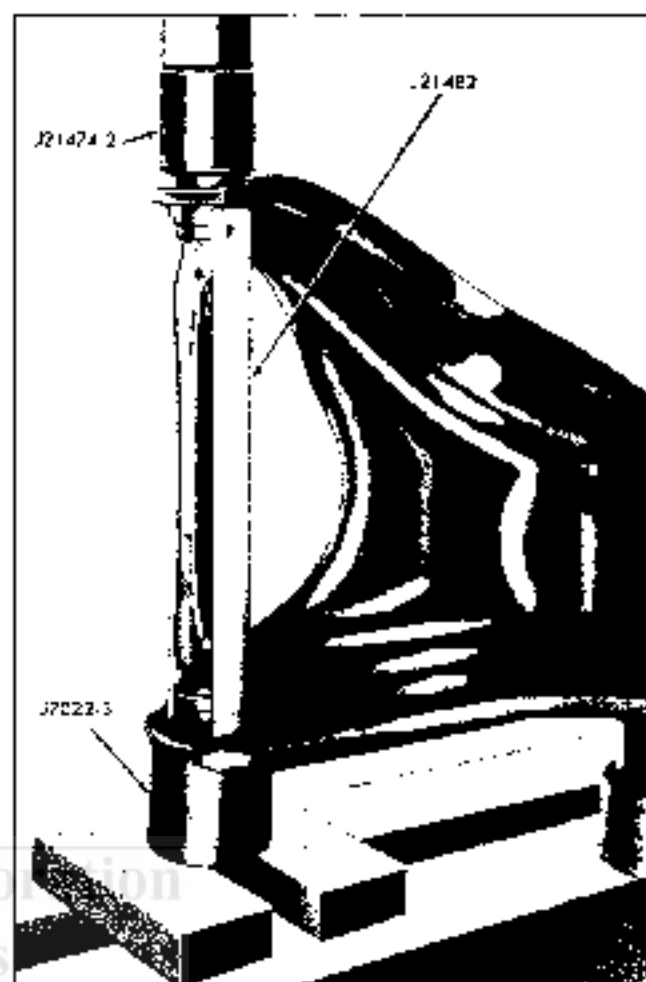

Fig. 3-13 Installing Upper Control Arm Bushing (Firebird)
1. Install arm in arbor press with tool J 21462 in place and press in one bushing using J 21474-2 as shown while supported on tool J 22899 as shown in Fig. 3-13.